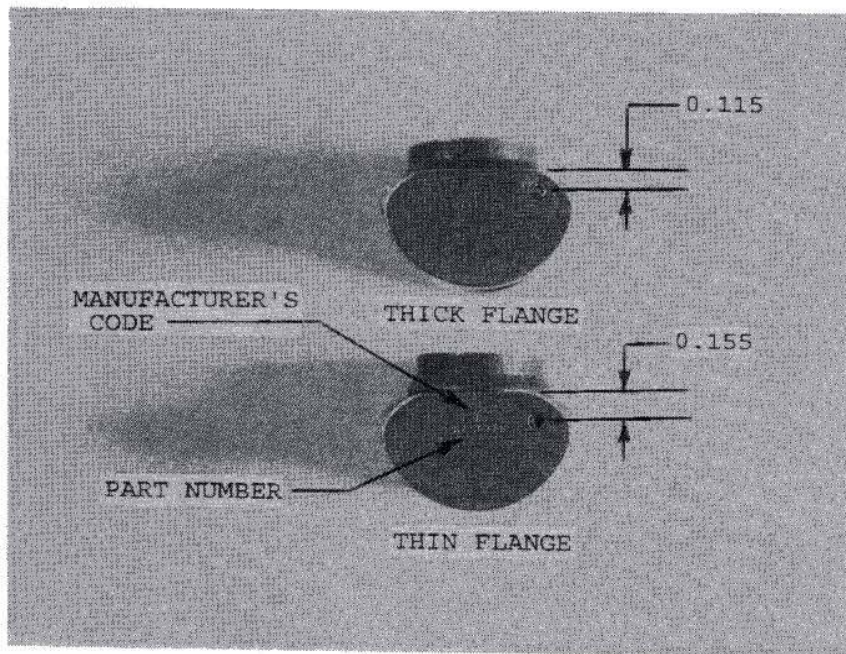

FIGURE 2
- a. Viewing the end of the barrel nut, inspect the barrel for the presence of a manufacturer's mark. Kaynar nuts are identified by the presence of a "K", depressed above the basic part number, **NAS577B** (refer to Figure 2). For installed barrel nuts, if the part number or manufacturer's mark can not be seen; or are not legible, the barrel nut must be removed from the component (see caution note above). If any manufacturer's identifying mark is found other than "K", the barrel nut is considered serviceable and no further action is required.
- b. If the "K" marking is found, measure the distance from the center of the roll pin securing the nut in the barrel to the flat surface of the barrel (refer to Figure 2). If the edge distance is approximately .115 inch, the nut is considered serviceable, no further action is required. If the dimension is approximately .155 inch, remove the barrel nut from service and replace with a serviceable barrel nut.